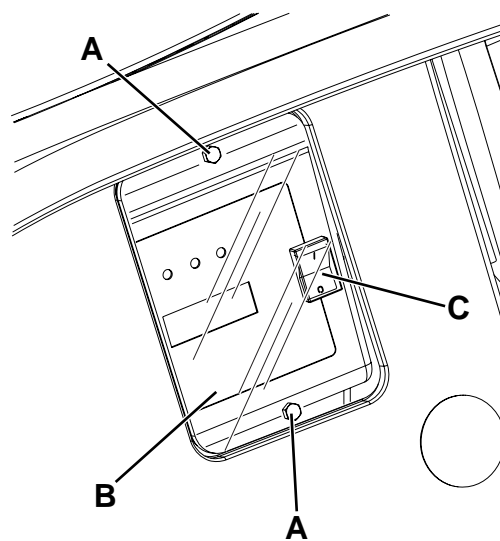

Figure 2
7. Remove the battery charger data inspection window screws (A, Fig. 2).
8. Remove the window (B).
9. Turn the battery charger selector (C) to WET for lead batteries, or to GEL for gel/AGM batteries.
10. Install the window (B) and tighten the screws (A).